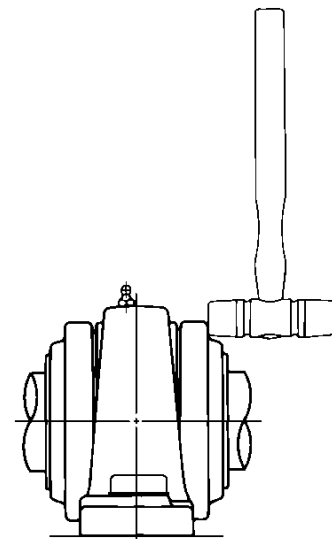

Fig. 6.3: Attaching pressed steel covers
- 5) For pressed steel covers, attach it by tapping the side of the circumference with a wood hammer or plastic hammer as shown in Fig. 6.3.